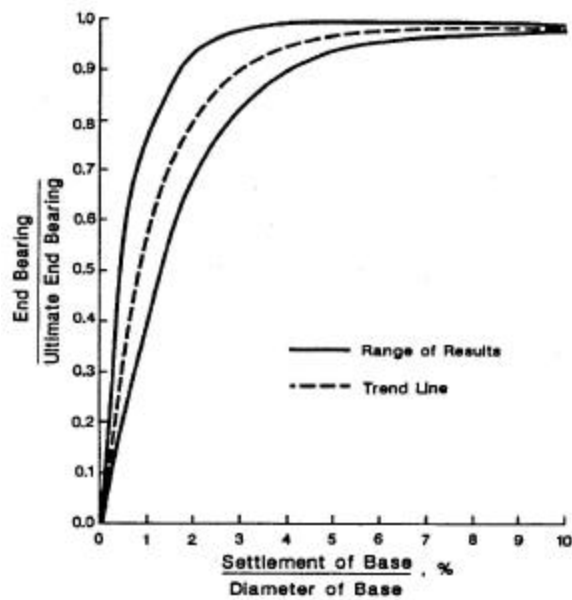

**Figure 8-2.**
2. Find relationships between settlement and load transfer ratios (developed resistance against ultimate resistance) using the corresponding charts in Fig 8-2 – 8-5
Typical settlement against load transfer ratios are shown in Figures 8-2 through 8-5 proposed by Reese and O'Neal (1988). Figure 8-2 and 8-3 represent the side load transfer ratio for cohesive soils and cohesionless soils/gravel respectively. Figure 8-4 and 8-5 represent the end bearing load transfer ratio for cohesive soils and cohesionless soils respectively.